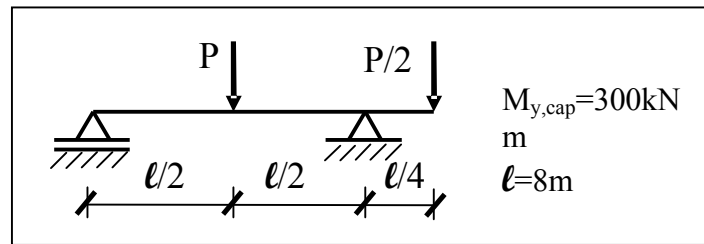

Fig. 1
02) The capable load (capable force; P_{cap}) for the beam represented in Fig. 1 is: